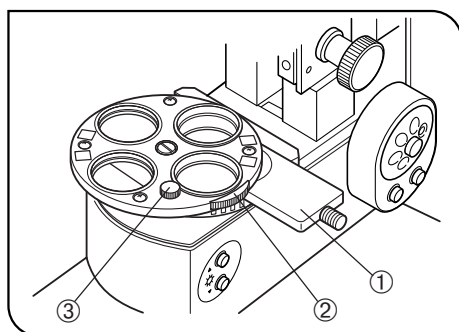

Fig. 39
**5 Adjusting the Polarizer Position (except the U-UCD8) (Fig. 39)**